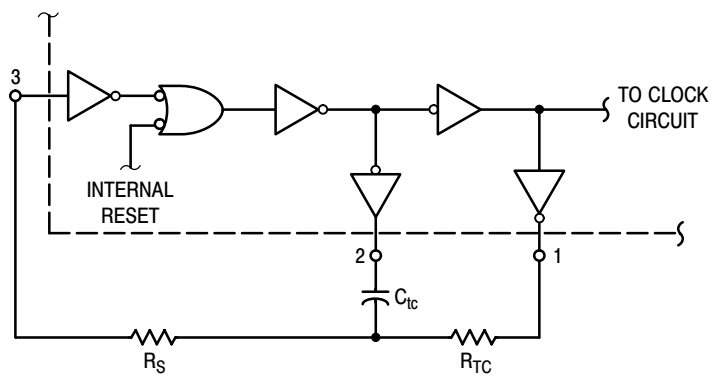

Figure 3. Oscillator Circuit Using RC Configuration
4. When using the on chip oscillator the total supply current (in µAdc) becomes:  $I_T = I_D + 2 C_{tc} V_{DD} f \times 10^{-3}$  where ID is in µA, Ctc is in pF, VDD in Volts DC, and f in kHz. (see Fig. 3) Dissipation during power-on with automatic reset enabled is typically 50 µA @ VDD = 10 Vdc.
The RC oscillator as shown in Figure 3 will oscillate with a frequency determined by the external RC network i.e.,